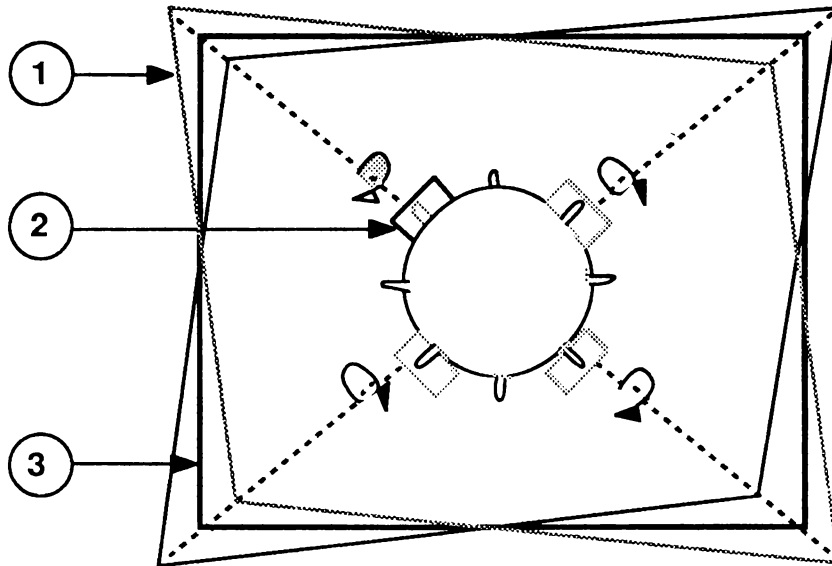

**FIGURE 9**
3. Rotate the magnet to obtain the desired raster, see Figure 9, #3.